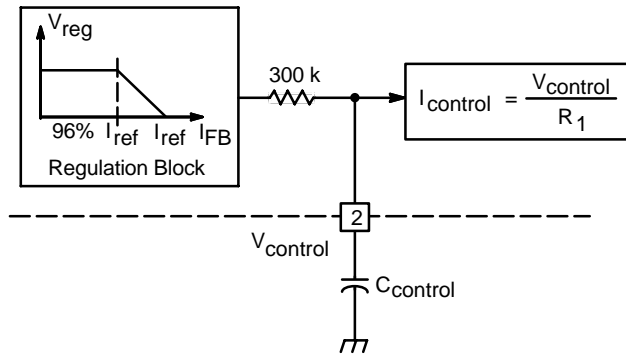
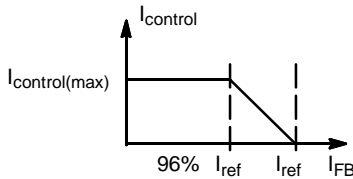

Figure 30.  $V_{control}$  Low-Pass Filtering
Figure 32. Regulation Block
Control current  $I_{control}$  is a roughly constant current that comes from the PFC output voltage  $V_{out}$  that is a slowly varying signal. The bandwidth of  $I_{control}$  can be additionally limited by inserting an external capacitor  $C_{control}$  to the control voltage  $V_{control}$  pin (Pin 2) in Figure 30. It is recommended to limit  $f_{control}$ , that is the bandwidth of  $V_{control}$  (or  $I_{control}$ ), below 20 Hz typically to achieve power factor correction purpose. Typical value of  $C_{control}$  is between 0.1  $\mu\text{F}$  and 0.33  $\mu\text{F}$ .
Feedback current  $I_{FB}$  which represents the output voltage  $V_{out}$  is processed in a function with a reference current ( $I_{ref} = 200 \mu A$  typical) as shown in regulation block function in Figure 32. The output of the voltage regulation block, low-pass filter on  $V_{control}$  pin and the  $I_{control} = V_{control} / R_1$  block is in Figure 30 is control current  $I_{control}$ . And the input is feedback current  $I_{FB}$ . It means that  $I_{control}$  is the output of  $I_{FB}$  and it can be described as in Figure 32. There are three linear regions including: (1)  $I_{FB} < 96\% \times I_{ref}$ , (2)  $96\% \times I_{ref} < I_{FB} < I_{ref}$ , and (3)  $I_{FB} > I_{ref}$ . They are discussed separately as follows: